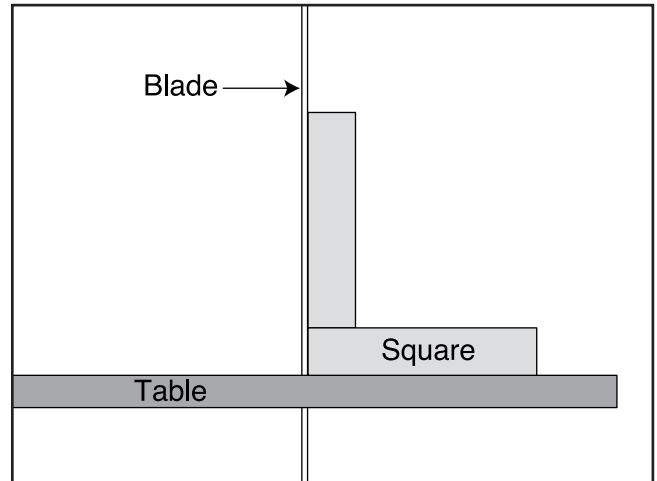

Figure 36. Squaring table to blade.
4. Raise the guide post and place a machinist's square on the table next to the side of the blade as illustrated in **Figure 36**. Adjust the table square with the blade using the table tilt handwheel, then secure with the table tilt lock lever.